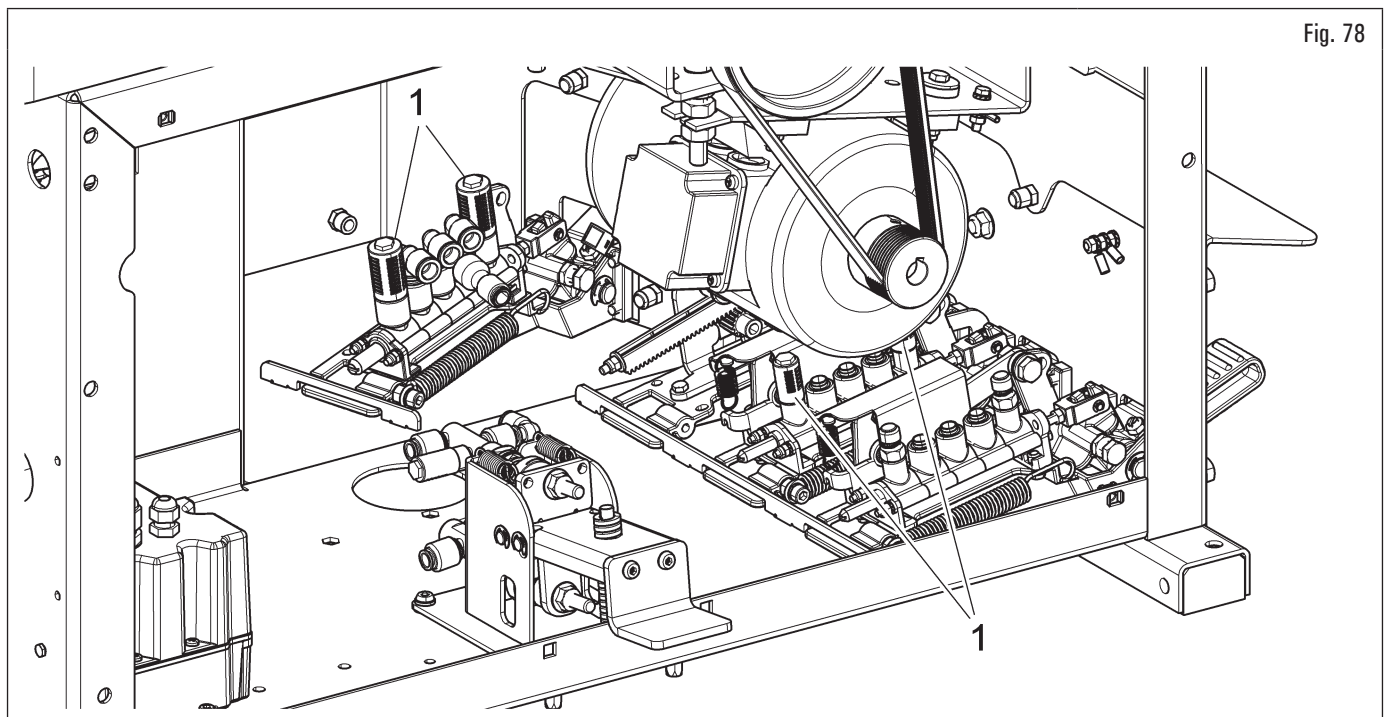

Fig. 78
- Cleaning and/or replacing silencers (Fig. 78 ref. 1):
2. undo the silencers (Fig. 78 ref. 1) located on the distributors serving the self-centring chuck and bead breaker control pedals;